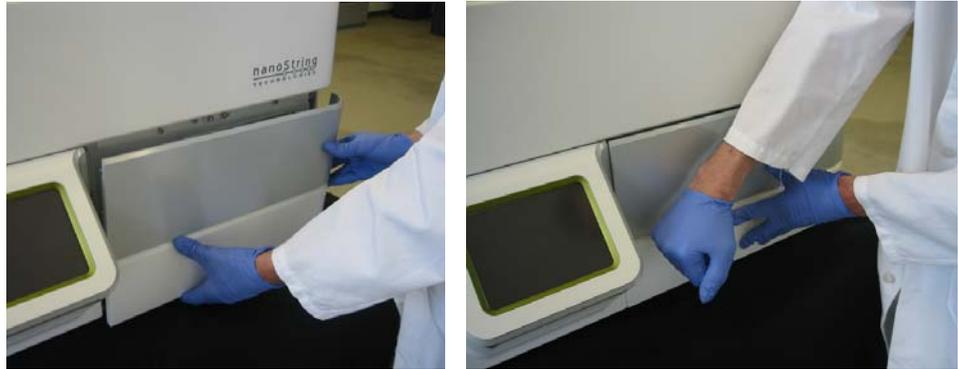

Figure 3.15 Reattaching and Securing the Panel After Bulb Replacement
5. Reattach the front-right bottom panel to the Digital Analyzer by tapping gently (Figure 3.15).